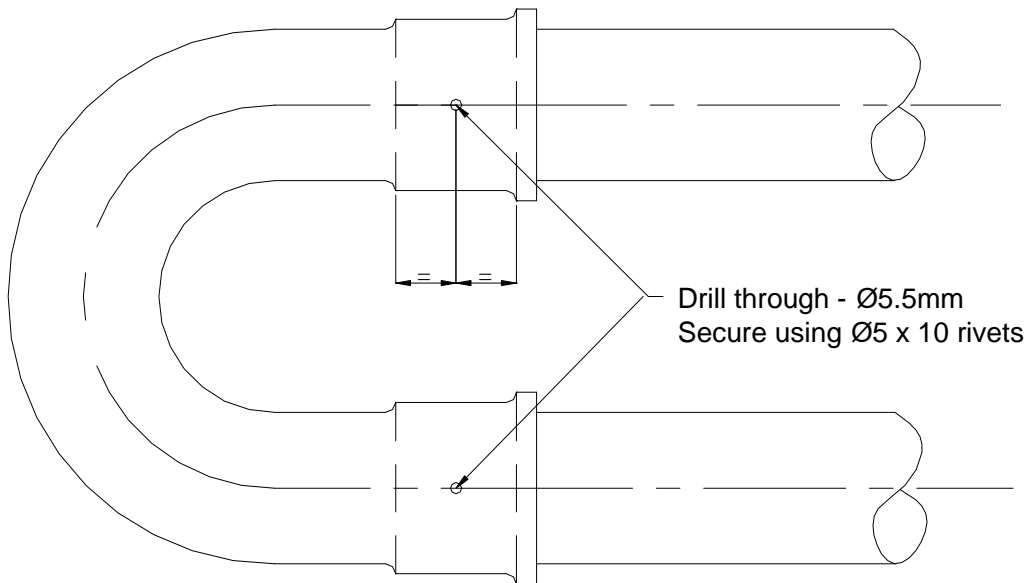

Fig. 17
- 4.3.1 Remove the packaging/protection from the Radiant Tubes and ensure that they are clear internally. Place the Radiant Tubes on trestles, providing 150mm minimum clearance above the floor and space 305mm apart with the ends of the tubes in line. Ensure that the welded seam of the tube is in contact with the hanger bracket (see 4.3.2 below) i.e. facing away from the reflector. Assemble the U Bend to the tubes, ensuring that the U Bend engages fully. Drill one Ø5.5mm hole through the U bend and Radiant Tube in the upper surface of each leg of the U Bend, at a distance midway along the swaged portion of the 'U' bend as shown in Fig. 17. Rivet the U Bend to the Radiant Tubes using the two Ø5 x 10 rivets provided (fastenings pack).